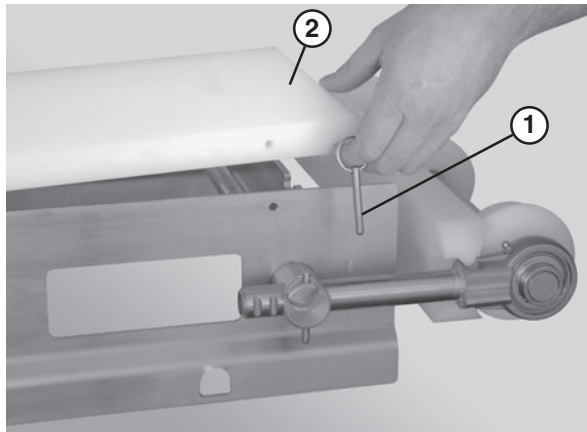

Figure 40
1. Remove the guides, if applicable, by removing the pull pins (**Figure 40, item 1**) that connect the guide (**Figure 40, item 2**) to the frame.